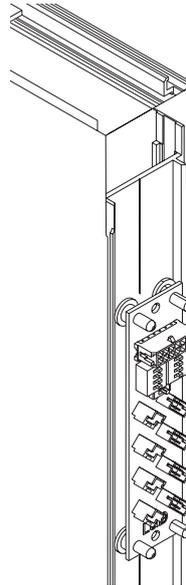

Fig. 104 Connection unit
- 16. Snap the connection unit on the spacer (Fig. 104).